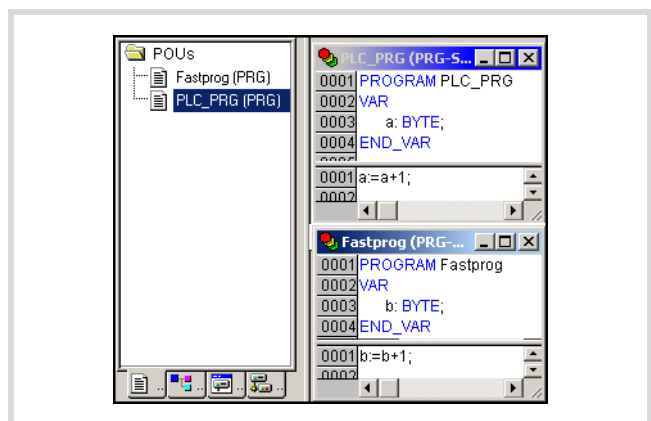

Figure: 54: Writing a program
► Create the POUs "PLC_PRG" and "Fastprog" as shown in .figure 54